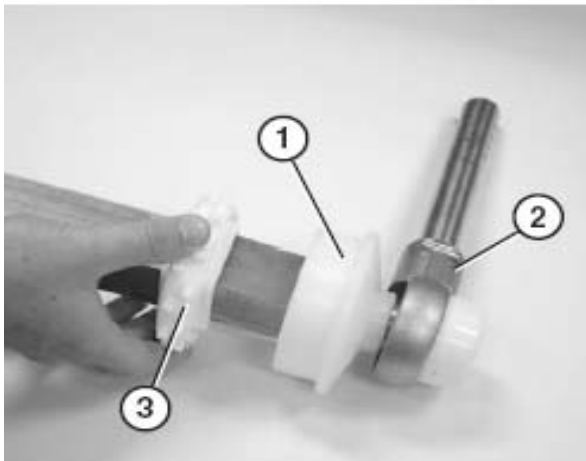

Figure 80
1. Attach a flanged puck (**Figure 80, item 1**) and bearing shaft assembly (**Figure 80, item 2**) to the shorter end of the drive spindle.
2. Slide the first sprocket (**Figure 80, item 3**) onto the drive spindle.